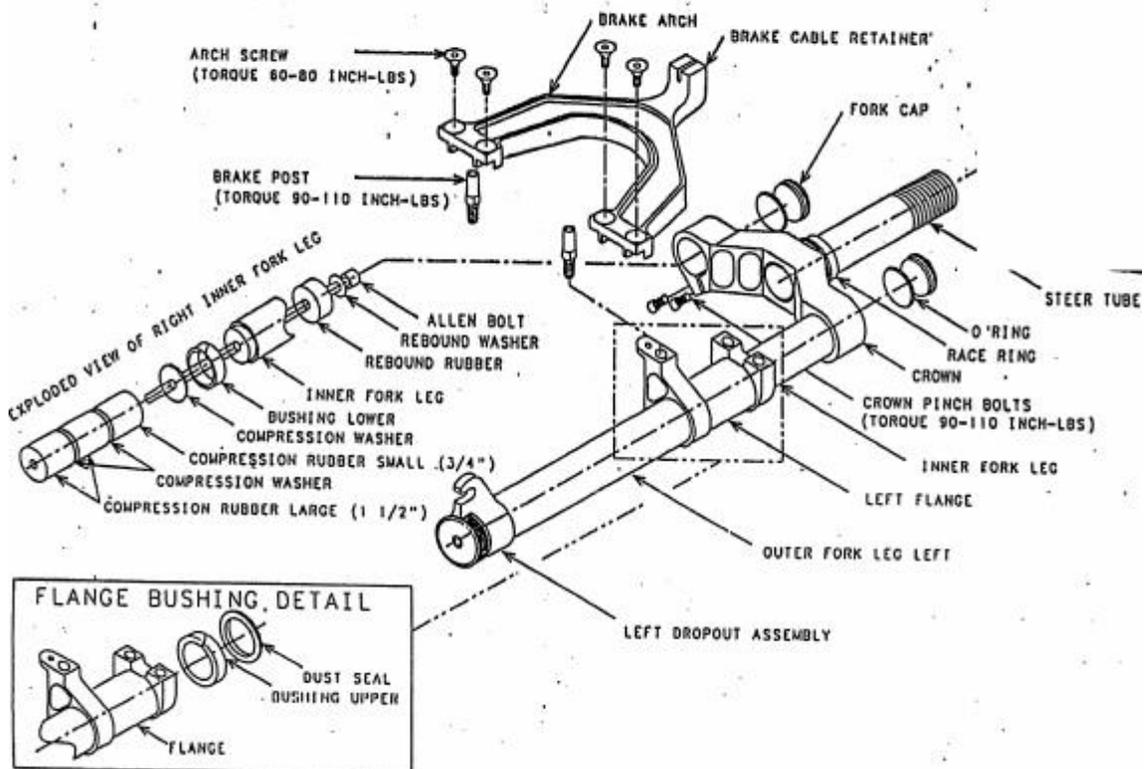

Figure 2
5. Install lower bushing and assemble elastomers as shown in (Figure 2).